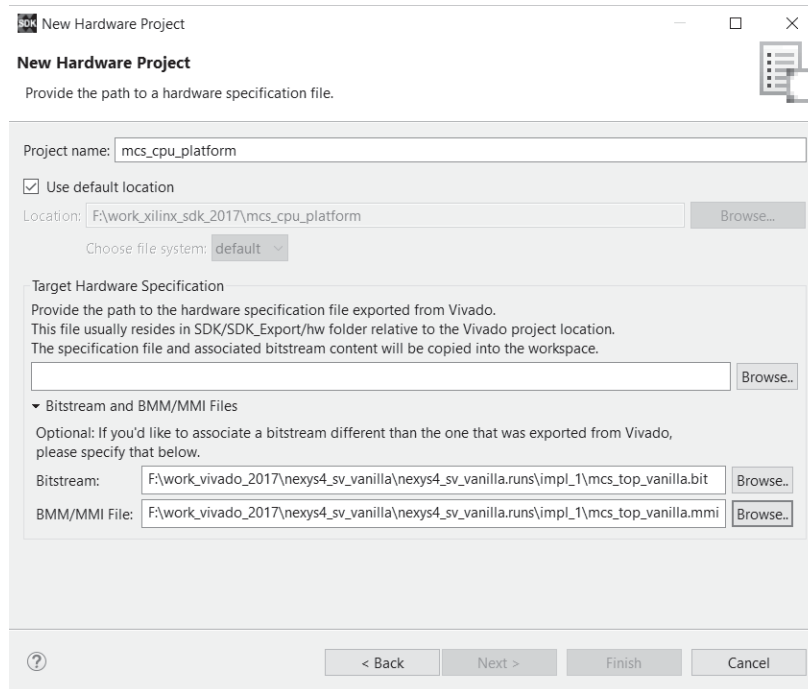

Figure A.14 Hardware project dialog.
- (b) Click on Bitstream and BMM/MMI Files to expand the panel, as shown in Figure A.14.